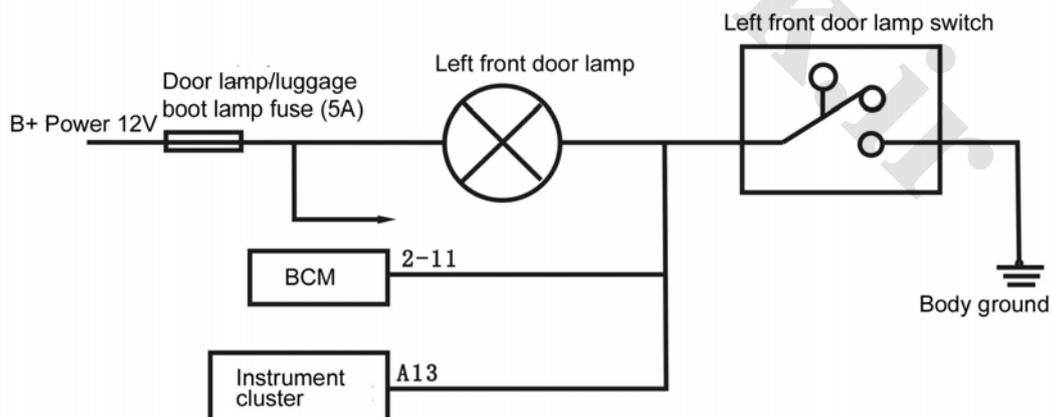

Fig. 4-25
(2) Check the circuit as shown in Fig. 4-25